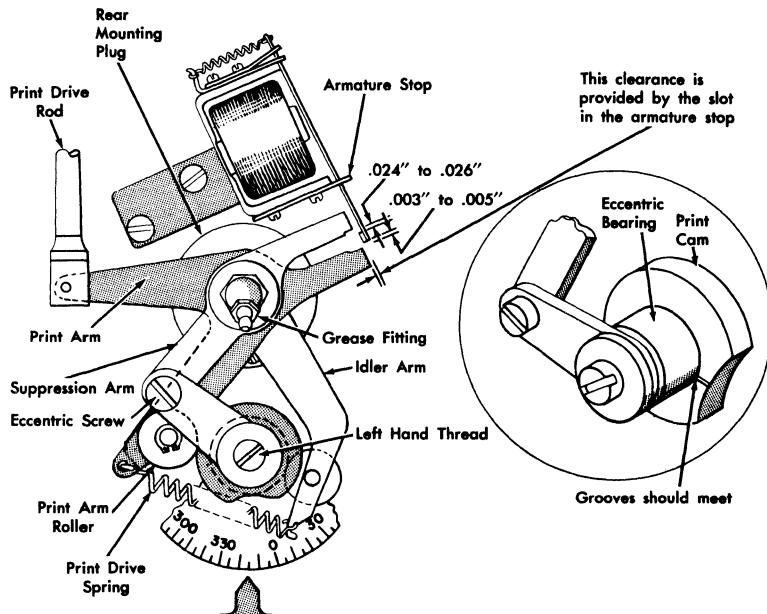

Figure 36. Print Drive Unit
- Unhook print drive spring (Figure 36) and trip punch clutch armature to prevent damage to it. Hold index and remove screw with left-hand threads from end of punch shaft. Unscrew grease fitting from mounting plug.
2. Unhook print drive spring (Figure 36) and trip punch clutch armature to prevent damage to it. Hold index and remove screw with left-hand threads from end of punch shaft. Unscrew grease fitting from mounting plug.
print drive rod from print arm (Figure 36) by prying out on drive rod at lower end.
Before reinstalling drive unit, push punch extensions in as far as possible (by hand). Extend pin bail drive link. Line up groove in eccentric bearing and mark on print cam (Figure 36). Check printing.